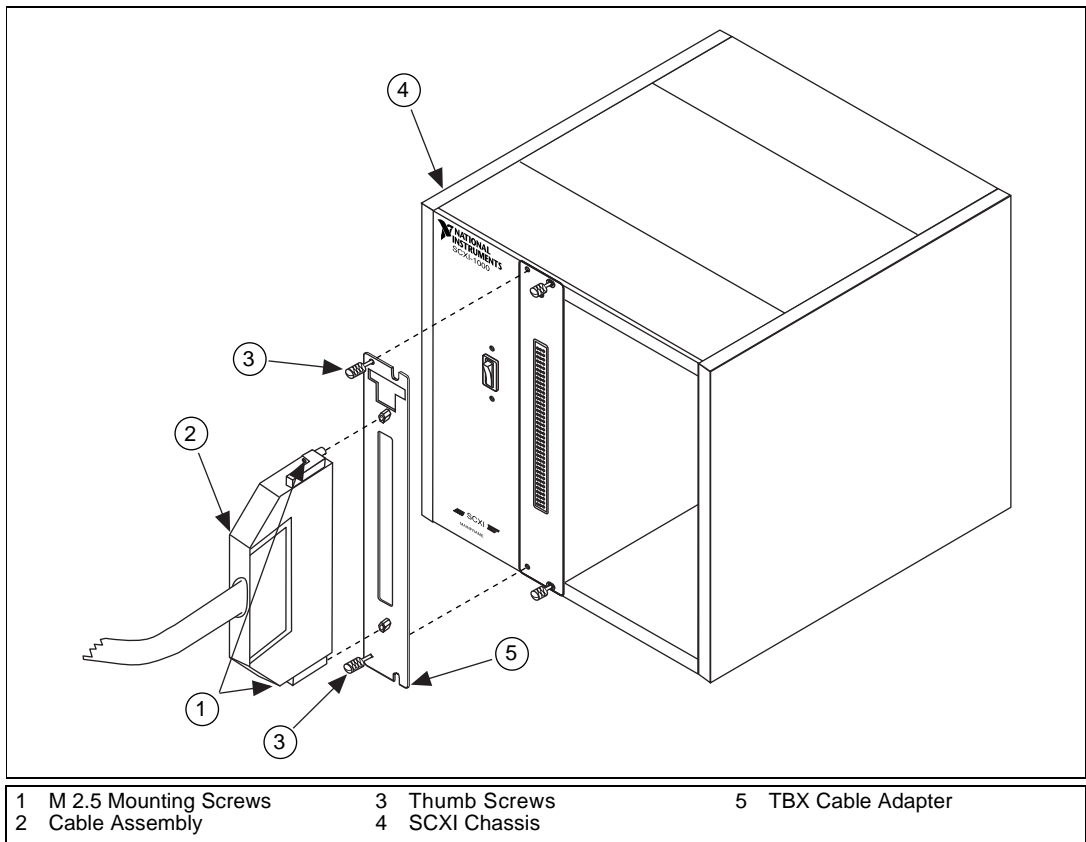

Figure 4. Connecting the SBS-96F Backshell Assembly to the SCXI Module
After completing all signal connections and assembling the SBS-96F backshell as described in the previous section, you are ready to connect the backshell assembly to your SCXI module. Refer to Figure 4 as you perform the following steps.
3. Connect the TBX cable adapter to the appropriate SCXI module and secure it by tightening both thumb screws as shown in Figure 4.
4. Connect the SBS-96F backshell assembly to your SCXI module front connector and secure the backshell by tightening both M 2.5 mounting screws as shown in Figure 4.